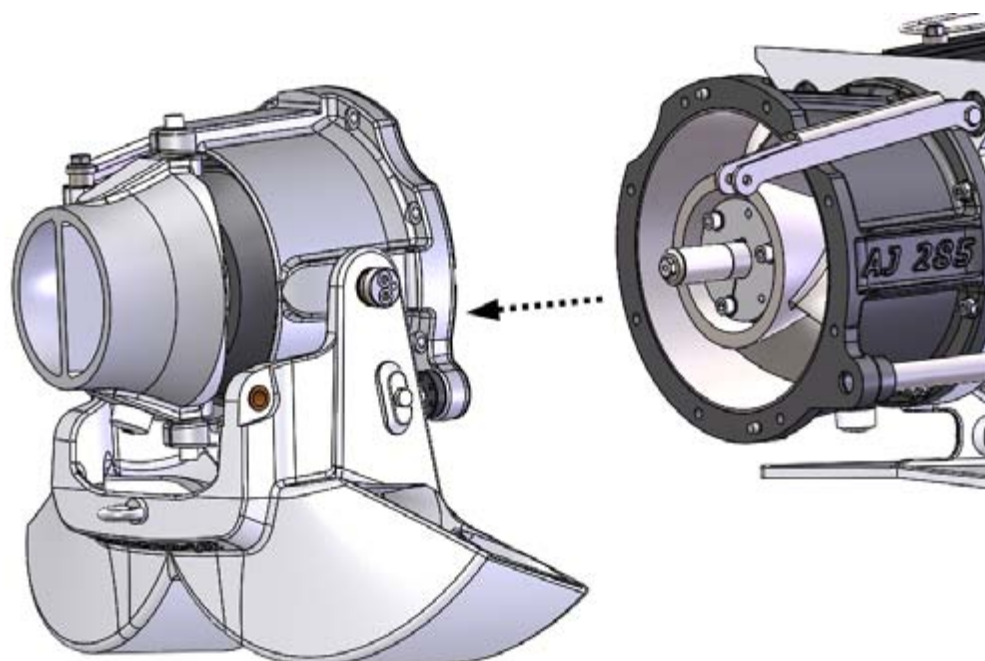

Figure 28. Removing the stator, reversing deflector and steering nozzle
3. Remove the stator, reversing deflector and steering nozzle as a complete unit (figure 28).